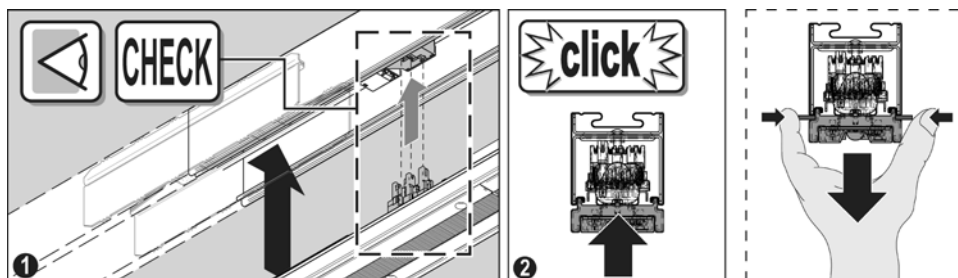

Figure 25
- Light Fixtures/Gear Trays snap into the Trunks by squeezing the latches (See Figure 23) and plugging into the Trunks (See Figure 24). See Figure 25.